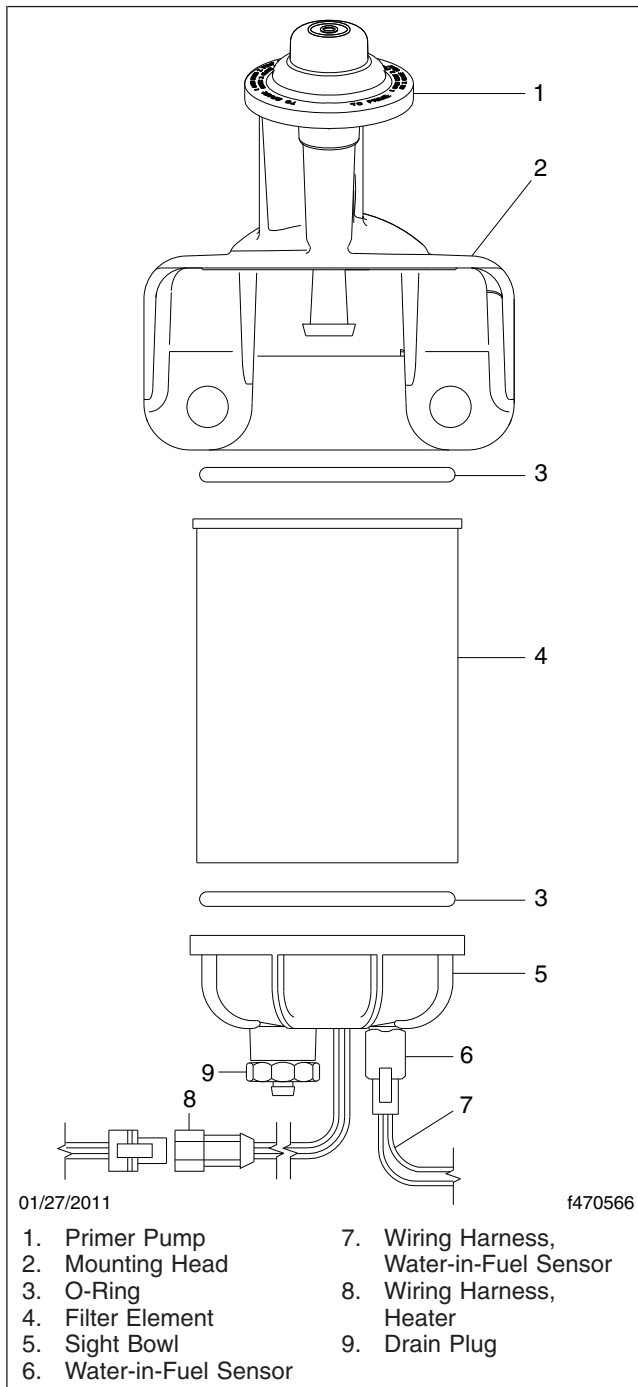

Fig. 1, Fuel/Water Separator Assembly, Alliance/Racor
5. Disconnect the wiring harnesses from the water-in-fuel sensor and, if equipped, the heater. See Fig. 1.